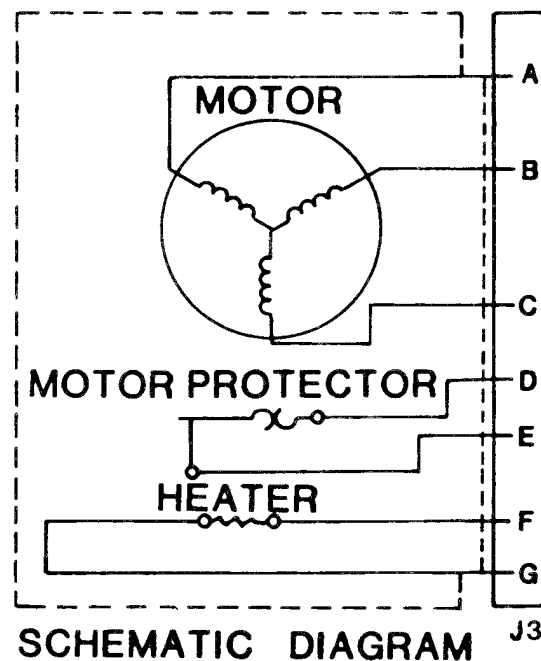

Figure 5-18. Compressor Schematic
(1) Remove the retaining hardware from the connector. Pull the connector out of the box to gain access to the solder connections.
(2) Tag and unsolder wire leads.
(3) Using tags and wiring schematic (fig. 5-18), solder wire leads to new connector. Remove the tags.
(4) Secure the connector to the compressor junction box with four screws, lockwashers, nuts and a gasket.